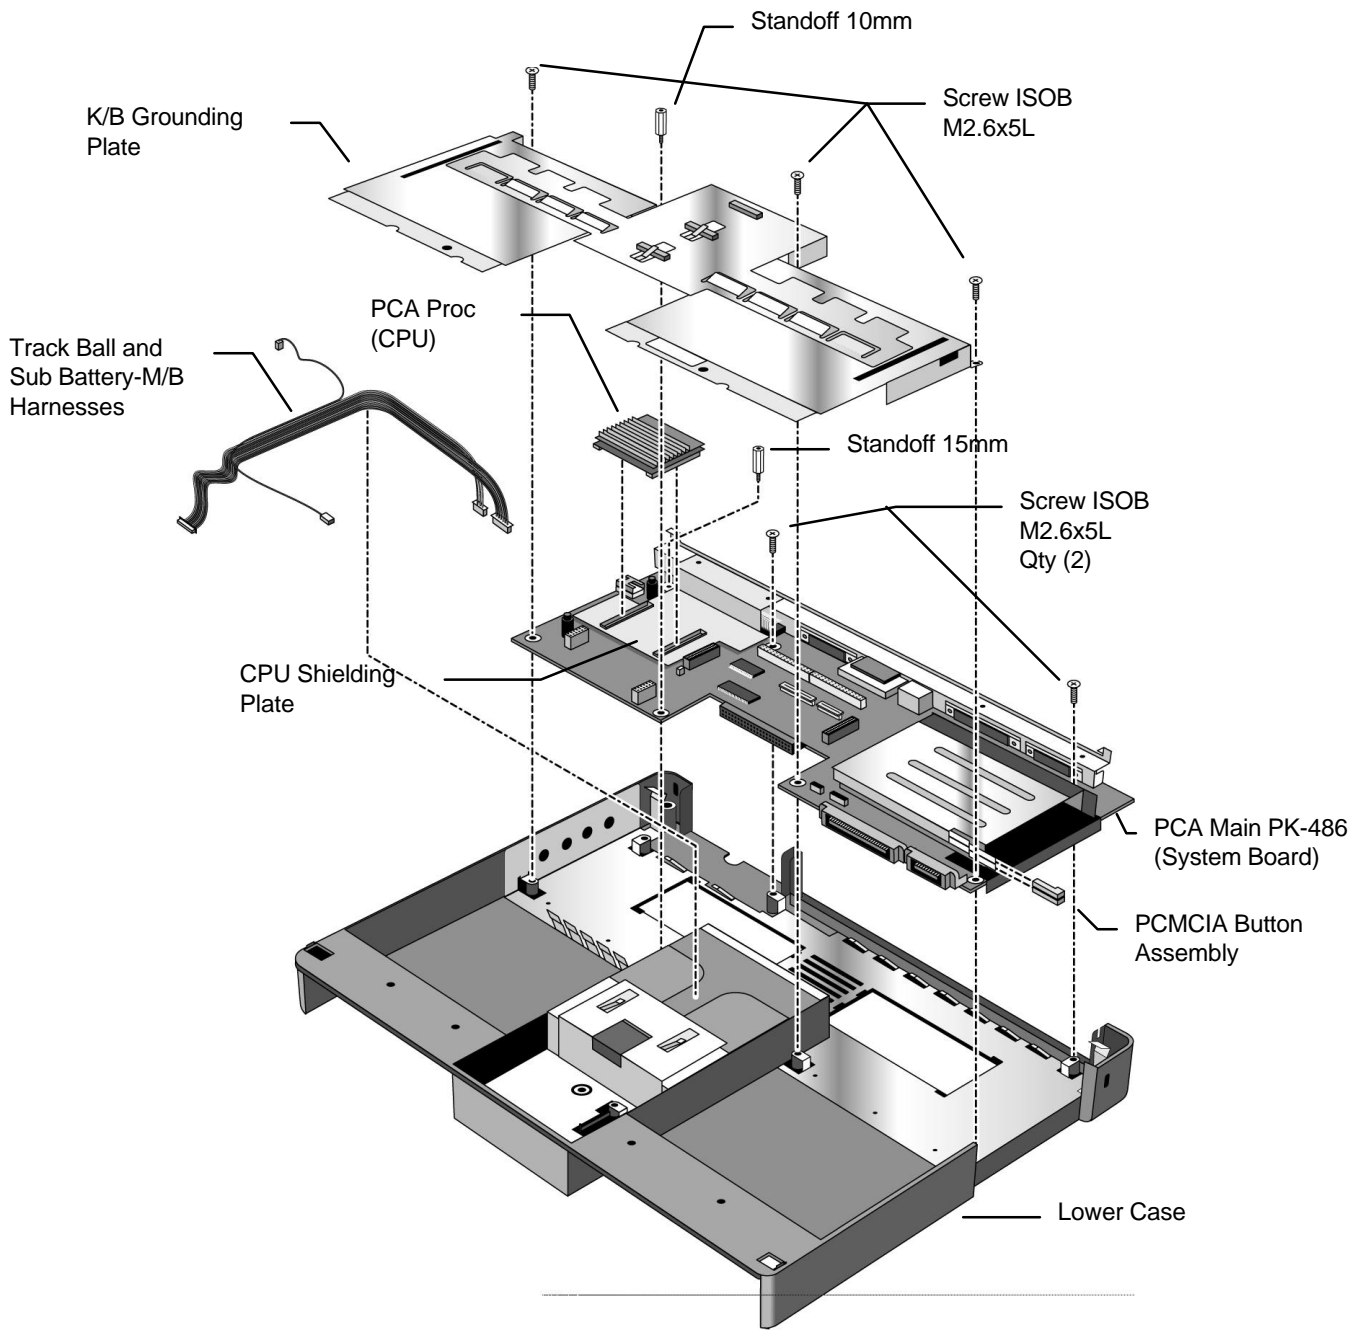

Figure 11 - System Board and Keyboard Grounding Plate
6. Remove the K/B Grounding Plate by unfastening the three (3) ISOB M2.6x5L screws and one (1) 10mm standoff. See Figure 11 for locations of these components. Take note that the Track Ball and Sub Battery-M/B Harnesses must be threaded through the K/B Grounding Plate before it can be freely removed.